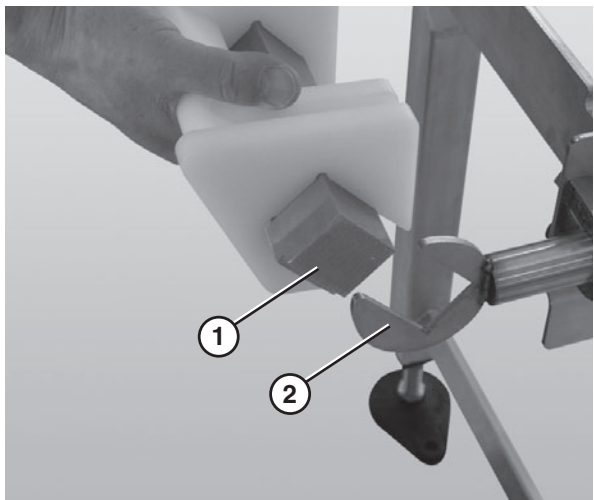

Figure 28
- Attach the nose bar transfer post (Figure 28, item 1) to the nose bar idler shaft hands (Figure 28, item 2).